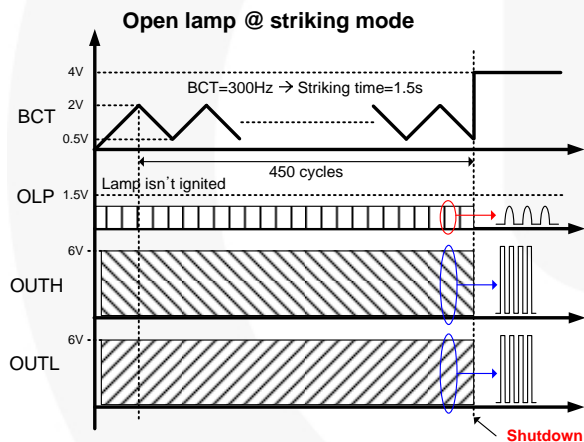
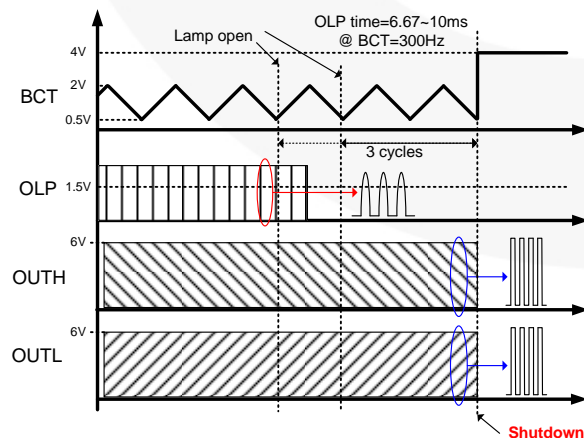

Figure 41. Open-Lamp Protection in Striking Mode
Figure 42. Open-Lamp Protection in Normal Mode
**Open-Lamp Protection:** If OLP is lower than 1.5V at initial operation, the IC operates at striking mode for BCT 450 cycles, as shown in Figure 41. If OLP is lower than 1.5V at normal mode, the IC is shut down after a delay of three BCT cycles, as shown in Figure 42.